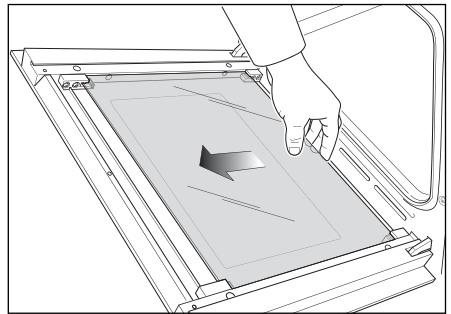

Fig.41b
- Gently unlock the middle pane of glass from the bottom clamps by moving it as in Fig. 41b.